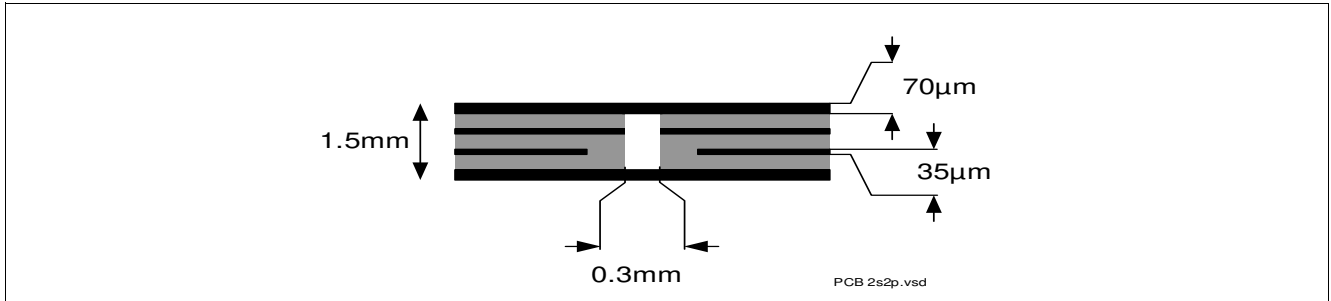

Figure 2 2s2p PCB Cross Section
- 2) Specified  $R_{thja}$  value is according to JEDEC JESD51-2,-5,-7 at natural convection on FR4 2s2p board; The product (chip + package) was simulated on a 76.4 x 114.3 x 1.5 mm board with 2 inner copper layers (2 x 70 $\mu\text{m}$  Cu, 2 x 35  $\mu\text{m}$  Cu). Where applicable, a thermal via array under the exposed pad contacts the first inner copper layer. Please refer to Figure 2.